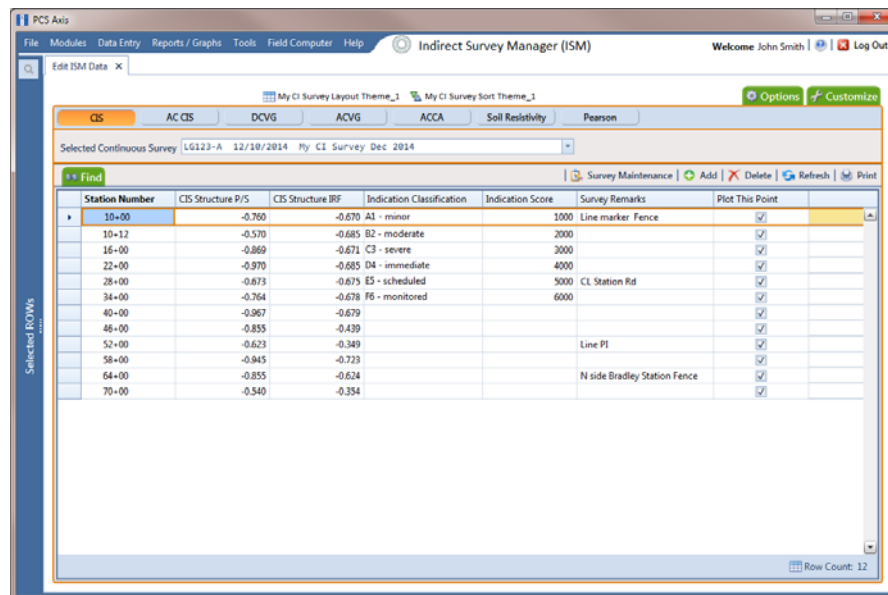

Figure 7-71. Edit ISM Data
- 3 Click **Data Entry > Edit ISM Data** to open the ISM data entry grid. Then click a button labeled with the type of continuous survey data you want to work with, such as the **CIS** button  (Figure 7-71).